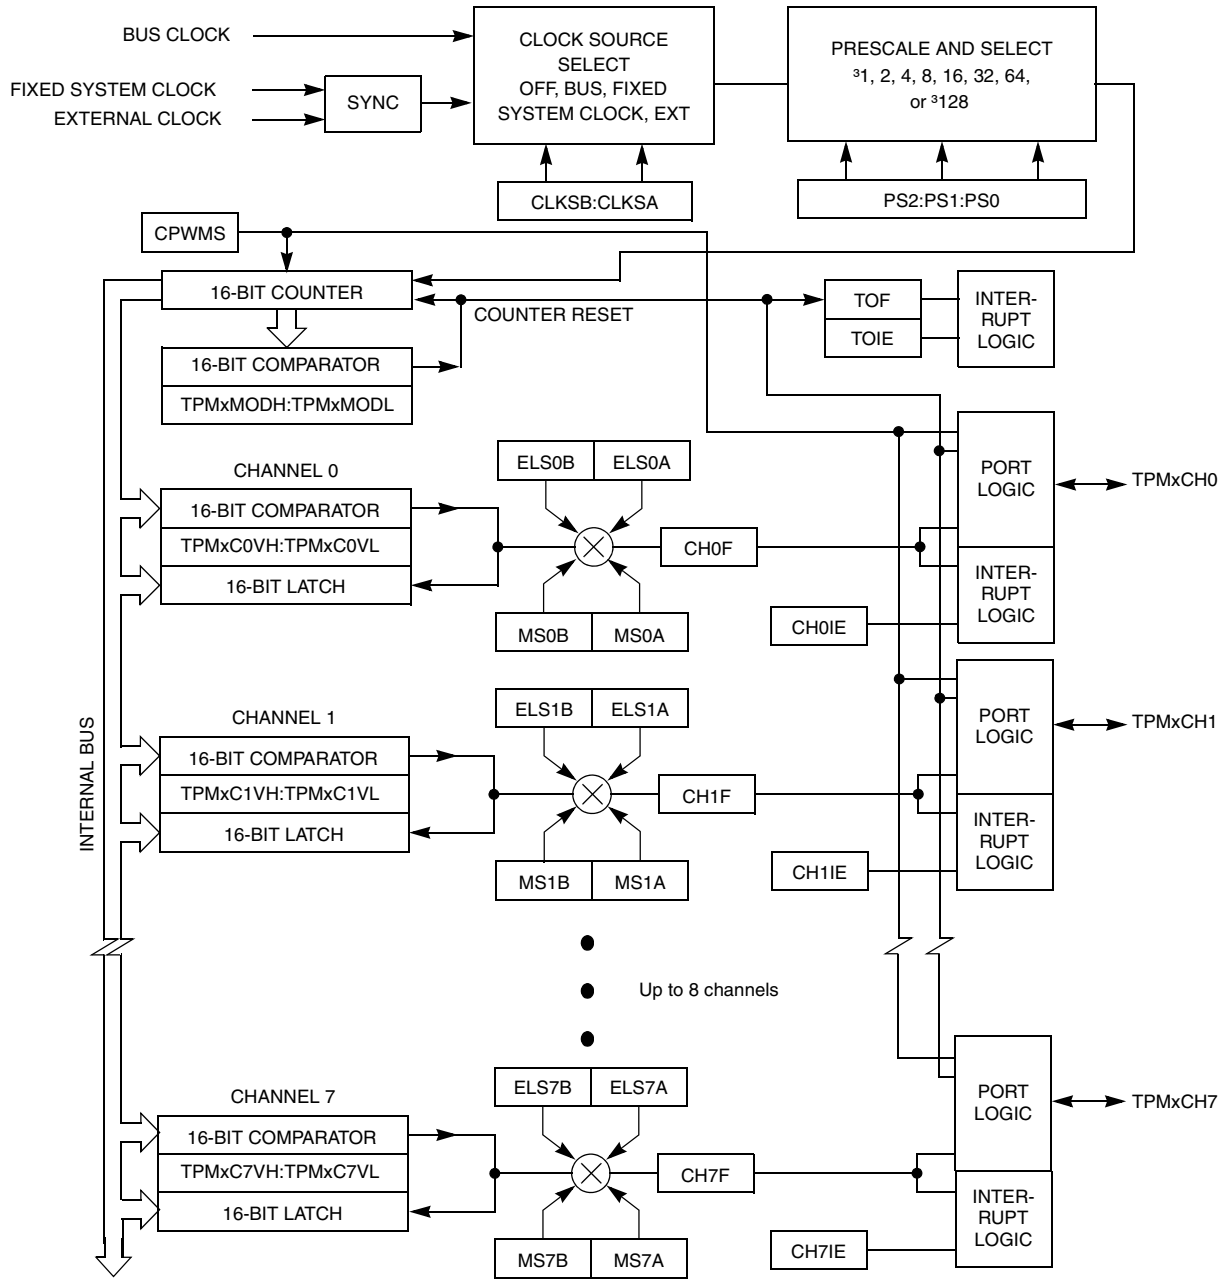

Figure 10-2. TPM Block Diagram
**Figure 10-2** shows the TPM structure. The central component of the TPM is the 16-bit counter that can operate as a free-running counter or a modulo up/down counter. The TPM counter (when operating in normal up-counting mode) provides the timing reference for the input capture, output compare, and edge-aligned PWM functions. The timer counter modulo registers, TPMxMODH:TPMxMODL, control the modulo value of the counter (the values 0x0000 or 0xFFFF effectively make the counter free running). Software can read the counter value at any time without affecting the counting sequence. Any write to either half of the TPMxCNT counter resets the counter, regardless of the data value written.